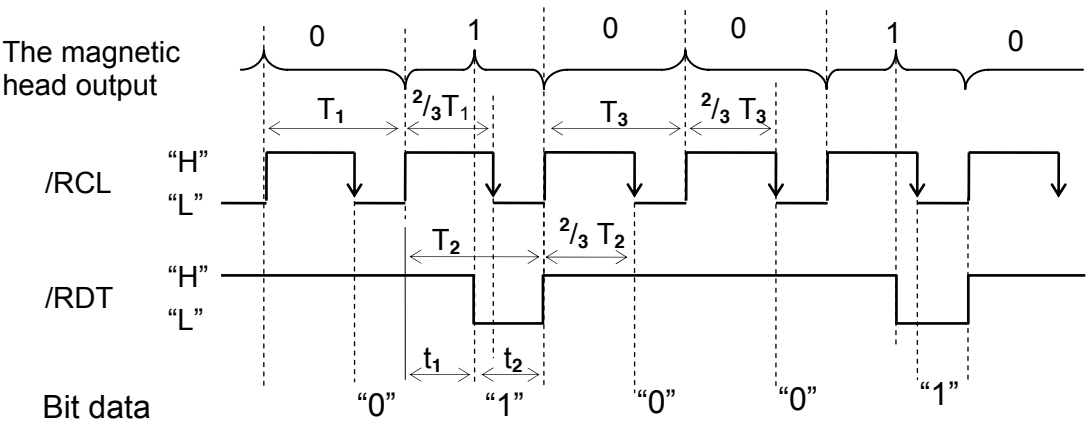

Fig 6.4 Timing sequence
- (1) /CLD(CARD LOAD) : The /CLD line will be Low when a Magnetic Card is running in the Magnetic Card Reader. The /CLD line will be High when the Card is stopped or not present in the Card reader.
- (2) /RCL(READ CLOCK) : This is used to sample the data line by it's falling edges. The time relationship of the clock with respect to the order signals is shown in Figure 6.4.
- (3) /RDT(READ DATA) : The moment /RCL change from High to Low ; /RDT is "1" when the /RDT line is Low , and /RDT is "0" when the /RDT line is High.
- (4) SGND : Signal ground
- (5) FGND : Frame ground